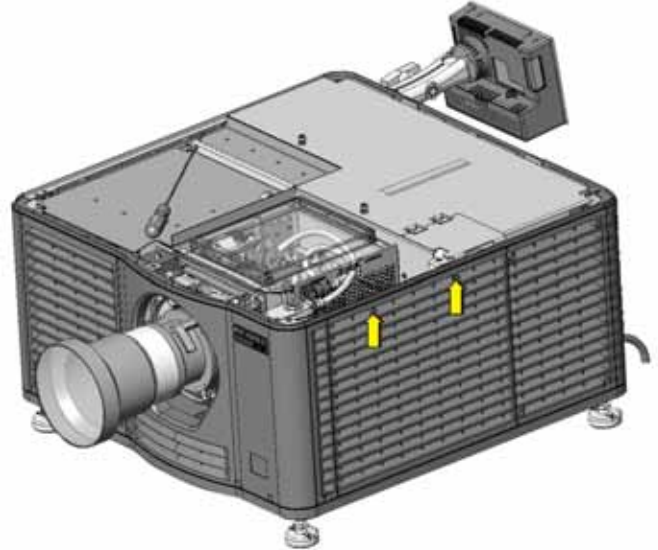

Figure 5-9 Side Skin Service Door
2. Use a #2 Phillips™ screwdriver to remove the two screws from the inside of the door (**Figure 5-9**).